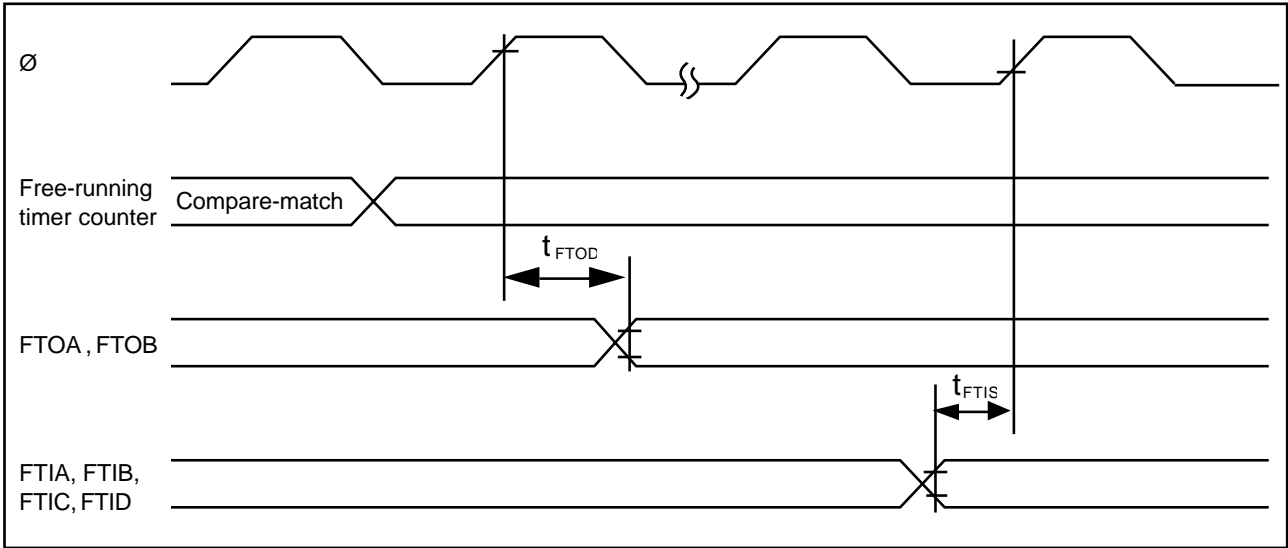

Figure 14-10. Free-Running Timer Input/Output Timing
- 14.3.3 16-Bit Free-Running Timer Timing Figures 14-10 to 14-11